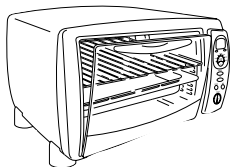
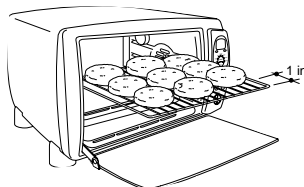
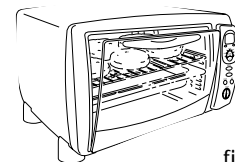

fig. 1
fig. 2
fig. 3
Preheat the oven for 5 minutes, with the door slightly ajar (as highlighted in Figure 1). Once the preheating time is complete, place the food being grilled directly on the wire rack (Figure 2) and close the door, leaving it ajar, as shown in Figure 3; remember to turn the food half way through cooking. **Important: for best results, place the food on the wire rack (I), leaving an empty space of around 1 in near the door (see Figure 2).**